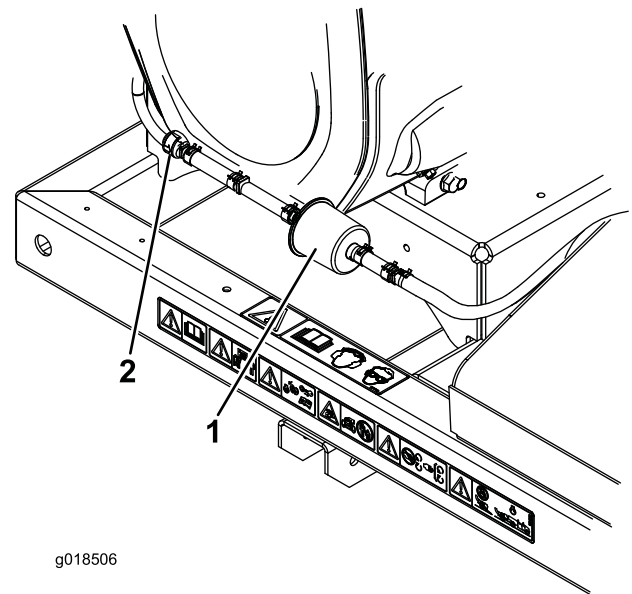

Figure 22
2. Move the spring-type hose clamps on both sides of the carbon canister purge-line filter away from the filter (Figure 22).
3. Remove and discard the carbon filter (Figure 22).
4. Install a new filter into the hose with the arrow on the filter pointing towards the check valve and secure it with the hose clamps (Figure 22).